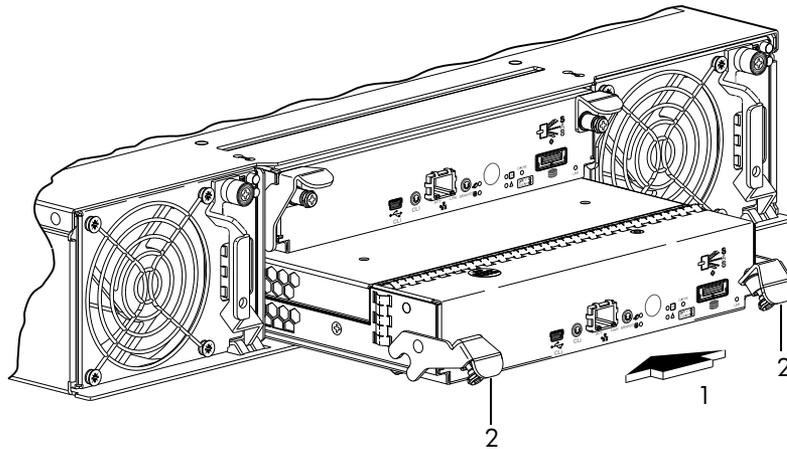

Figure 13 Inserting a controller module
1. Loosen the thumbscrews; press the latches downward (see Figure 13 on page 28).
2. Ensuring that the controller module is level, slide it into the enclosure as far as it will go (1).